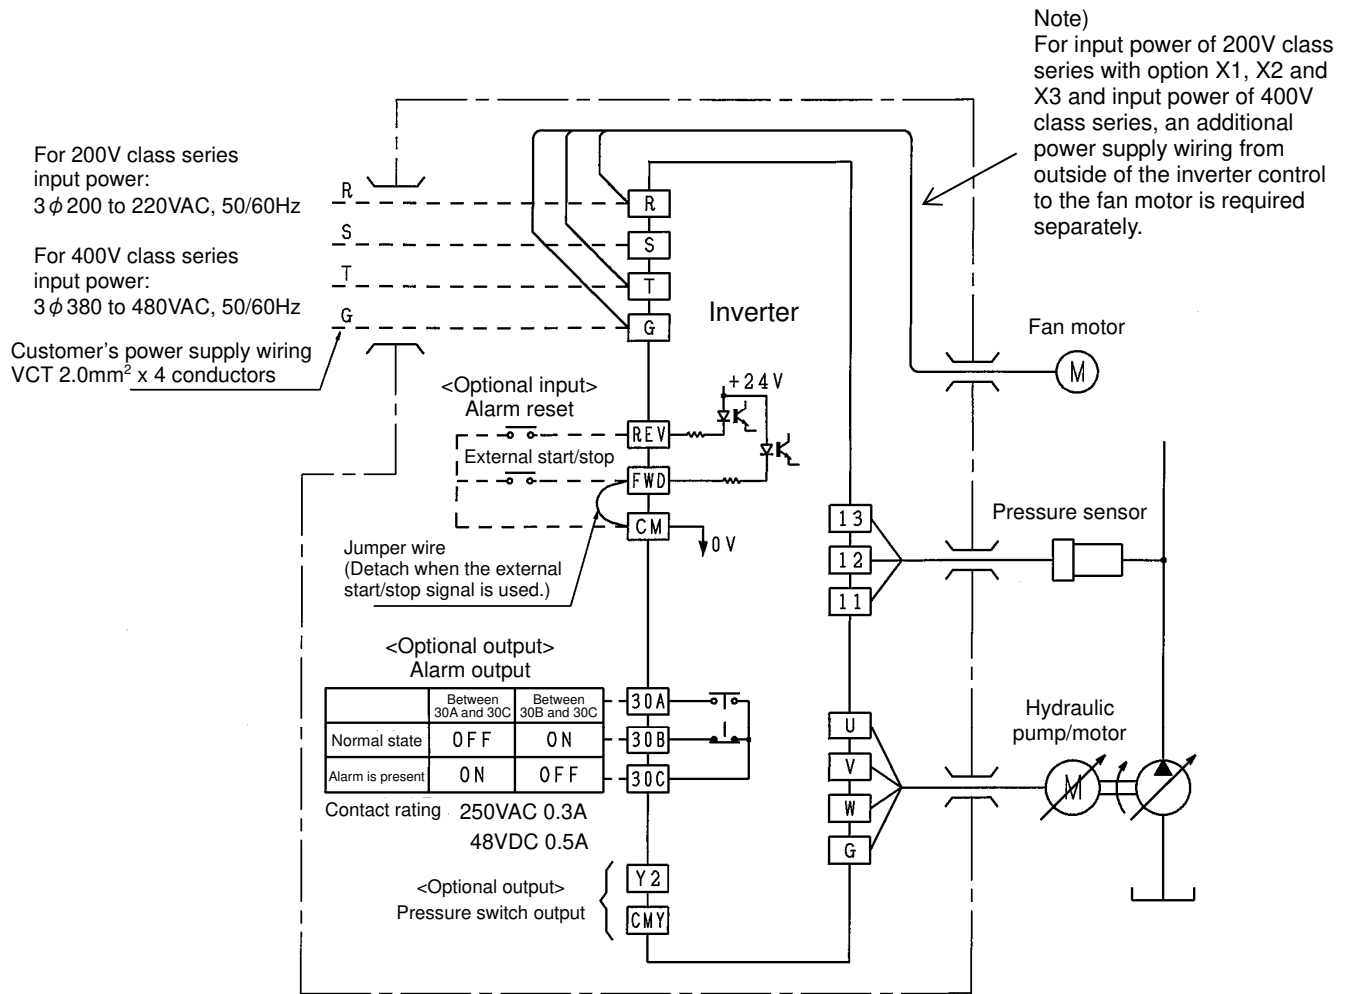

Fig. 2 Connection Diagram of Inverter Control Part
- 1) Fig. 2 shows the connection diagram of the inverter control area.